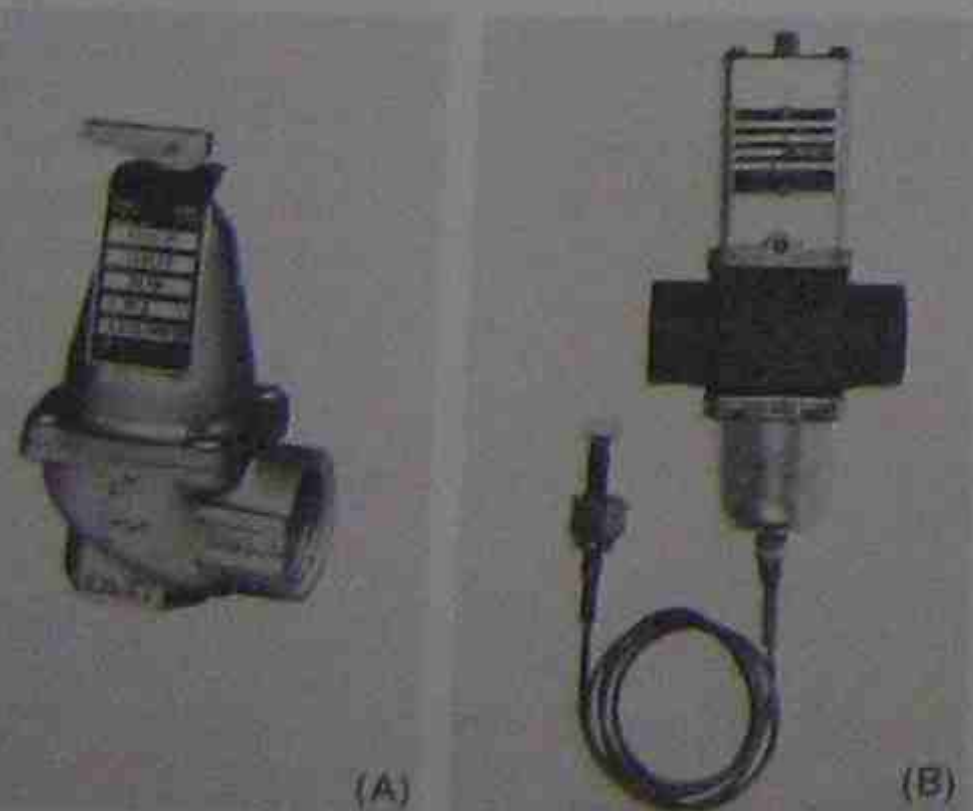

Figure 15-5. (A) A safety control (boiler relief valve) and (B) an operating control (water regulating valve). Photos by Bill Johnson
8. The pressure control can be an operating-type control or a safety-type control, Figure 15-5.